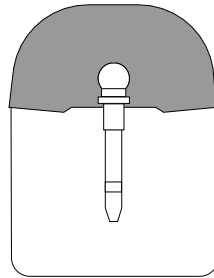

Fig. 5
4. The laboratory pours up the transfer stud and impression in stone or plaster (Fig. 5).